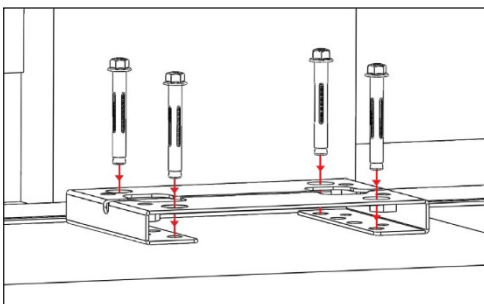

Fig 15
- Fit motor mounting plate back into place and fit and tighten anchor bolts (as per figures 15 and 16).